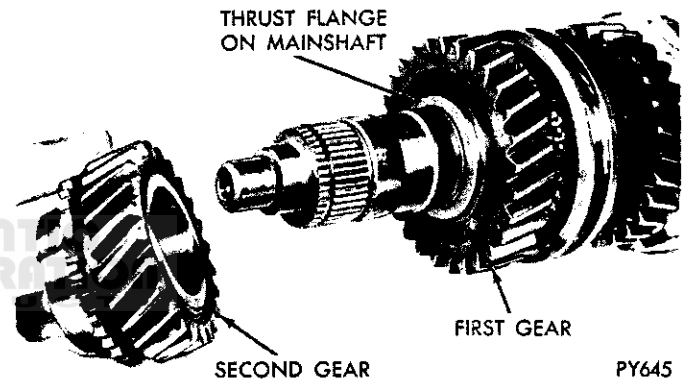

Fig. 16—2nd Gear—Removal or Installation
- (3) Remove 2nd gear from mainshaft (Fig. 16).
(21) Place second gear over front of mainshaft with thrust surface against flange (Fig. 16).